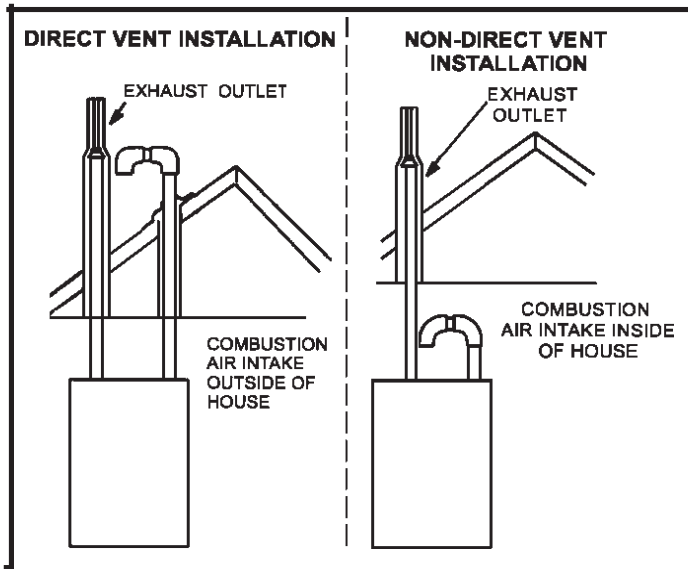

FIGURE 2
**NOTE:** *In Direct Vent installations, combustion air is taken from outdoors and flue gases are discharged outdoors. In Non-Direct Vent installations, combustion air is taken from indoors and flue gases are discharged outdoors. See Figure 2 for applications involving roof termination.*